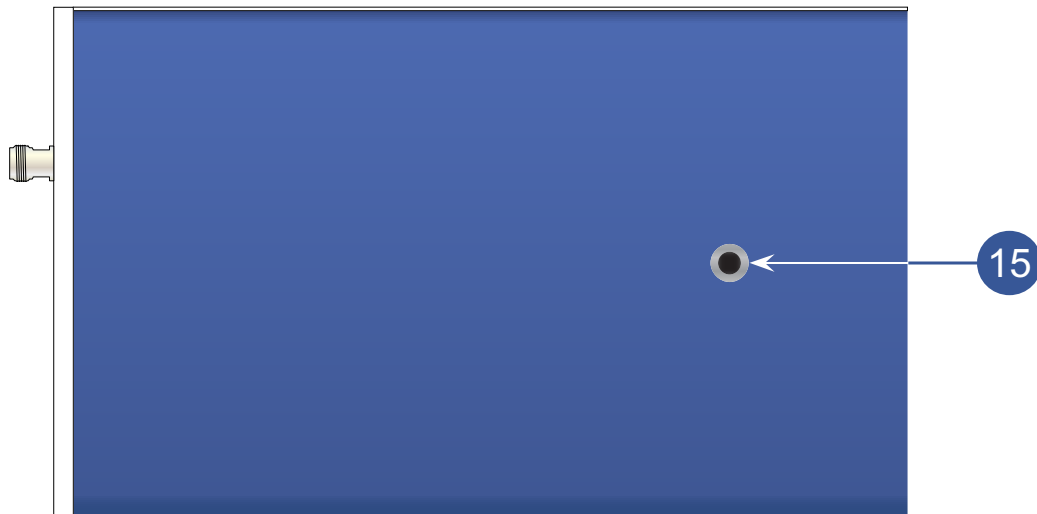

FIGURE 3 - AM-741R Connections/Controls/Indicators - Bottom Panel
- 1) REFERENCE MEASUREMENTS **(R)** - With the equipment set up as shown in Figure 3, measure and record the signal level (*in dBμV*) at several frequencies over the frequency range to be calibrated.